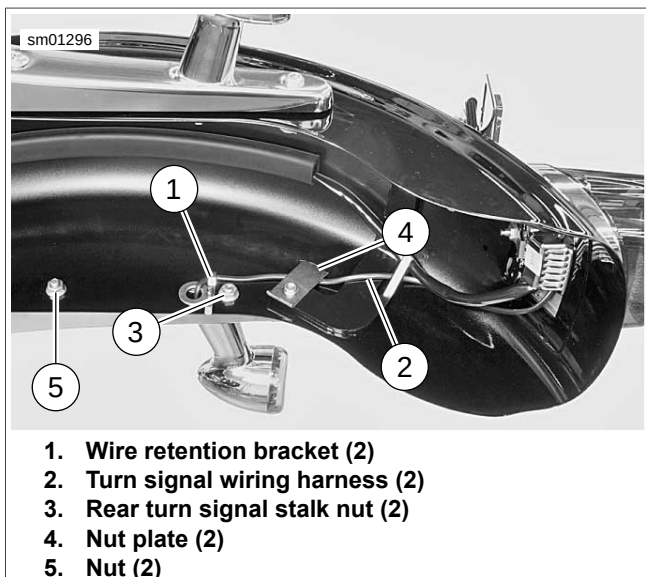

Figure 6-70. Turn Signal Wire Routing: XL 883R/L
6. See Figure 6-70. Disengage turn signal wiring harnesses from wire retention brackets (1).